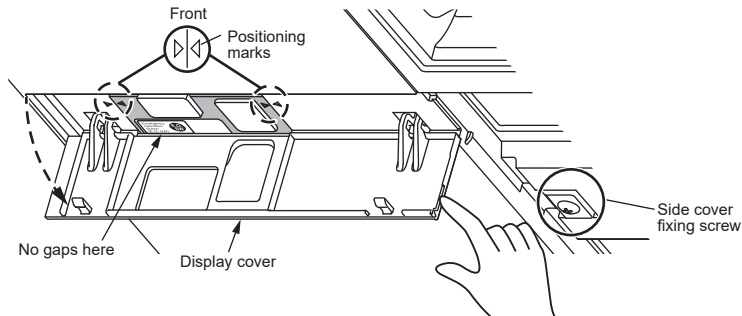

Fig. 9
- Open the display cover and check that the positioning marks are aligned correctly. (Fig. 9)
- Make sure that there are no gaps between the emergency operation switch (E.O. SW) and the side cover. (Fig. 9)
11. Fix the side covers L/R with the side cover fixing screws removed in step 2. (Fig. 9)